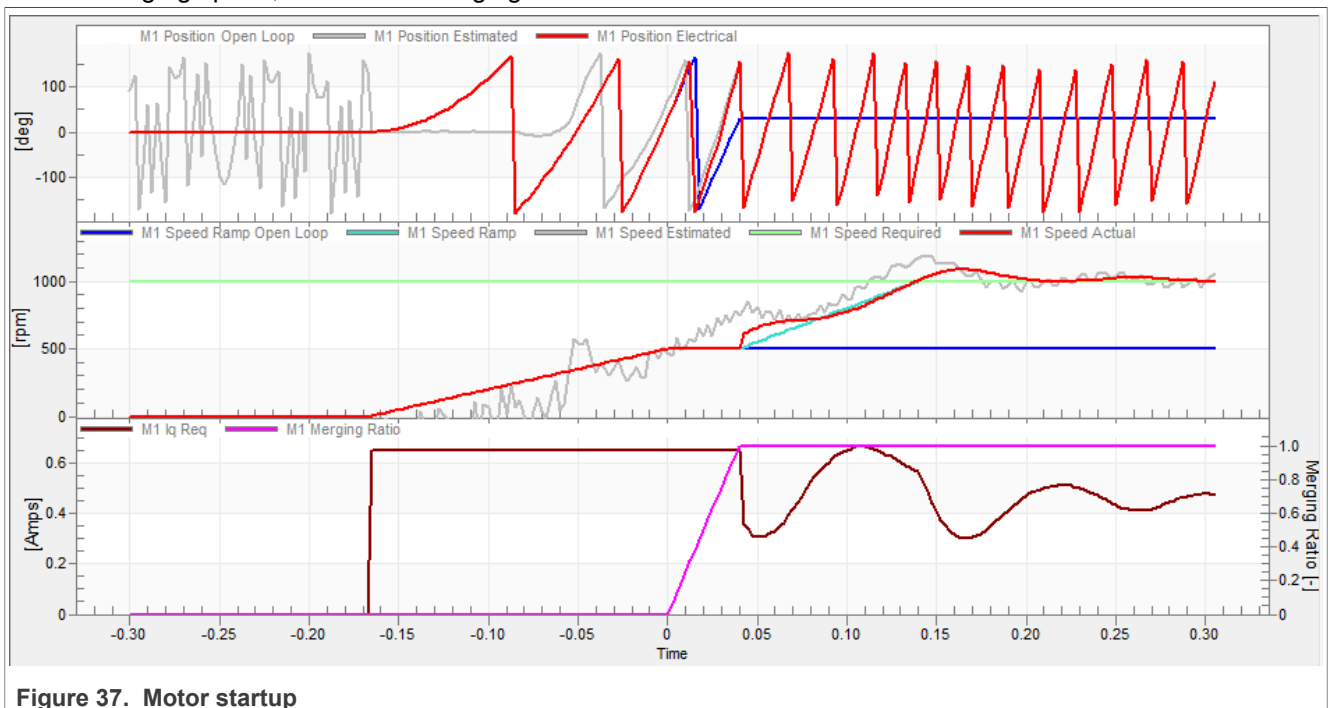

Figure 37. Motor startup
1. The startup process can be tuned by a set of parameters located in the "Sensorless" tab. Two of them (ramp increment and current) are accessible in both tuning modes. The startup tuning can be processed in all control modes besides the scalar control. Setting the optimal values results in a proper motor startup. An example startup state of low-dynamic drives (fans, pumps) is shown in Figure 37.